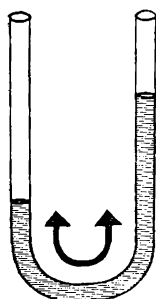

Fig. 331
- (f) A liquid oscillates to and fro in a U-tube (Fig. 331). Compare this with the water swishing to and fro in your bath!